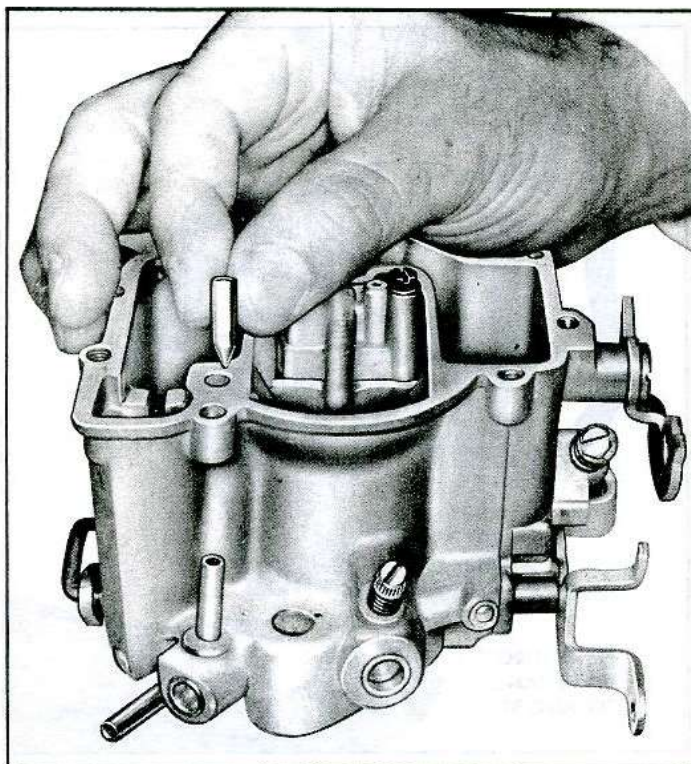

Fig. 9—Installing Pump Discharge Needle
5. Install pump discharge needle (fig. 9).